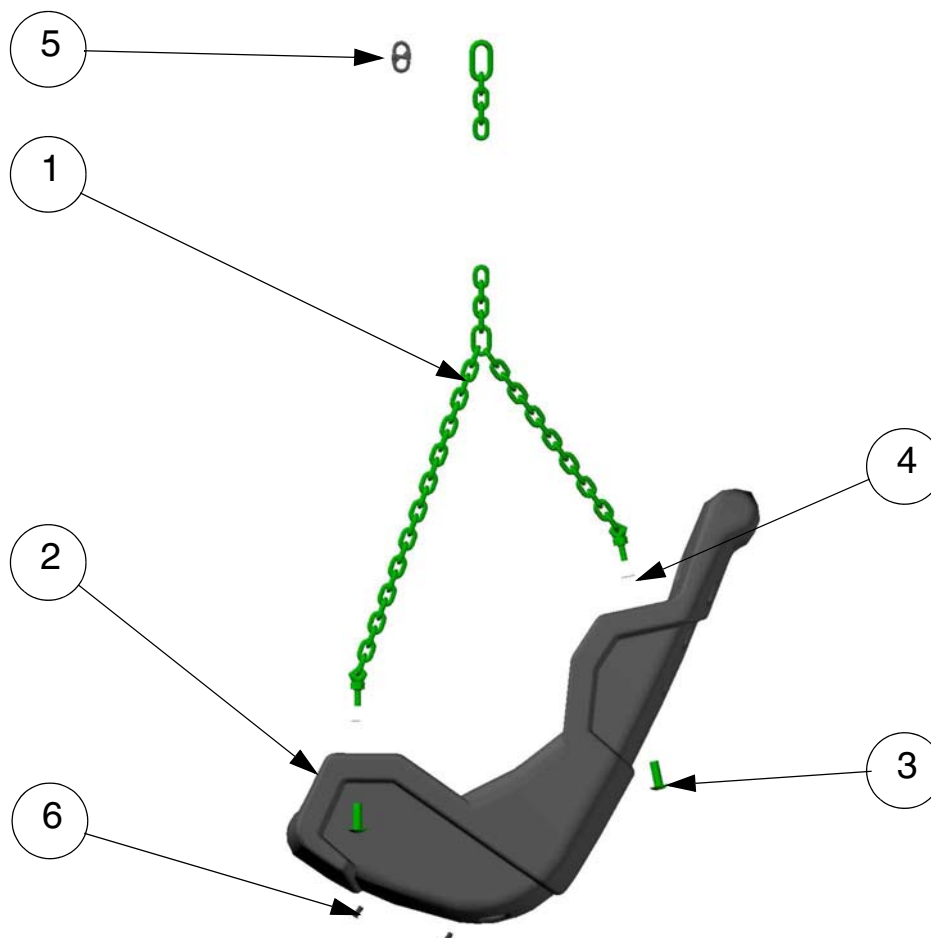

FIG.1
NOTE: The seat (as shown below in FIG.1) is supplied fully assembled. The coupling link (item 5) will require fitting on site once the required chain length has been determined.